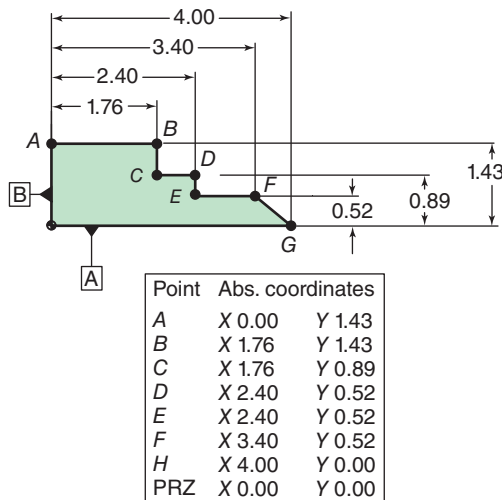

Figure 17-36 Plot these points to see what the error does to the shape. Save your drawing for later analysis.
8. This problem (Fig. 17-36) illustrates a major difference between absolute and incremental coordinates. We
will rerun it a second time in the incremental problem set. The set of X-Y, absolute mill coordinates in Fig. 17-36 have a deliberate error that *does not produce the shape shown*. Using engineer's graph paper (0.1-in. or 0.2-in. grid), plot and connect them in sequence using a contrasting color to see what happens. Save your drawing.